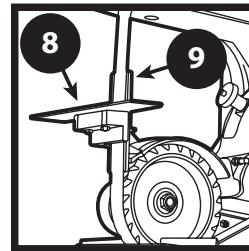

FIGURE 6
12. Attach chain saw bar grinding table with two bolts to the vertical platen. (Figure 6).